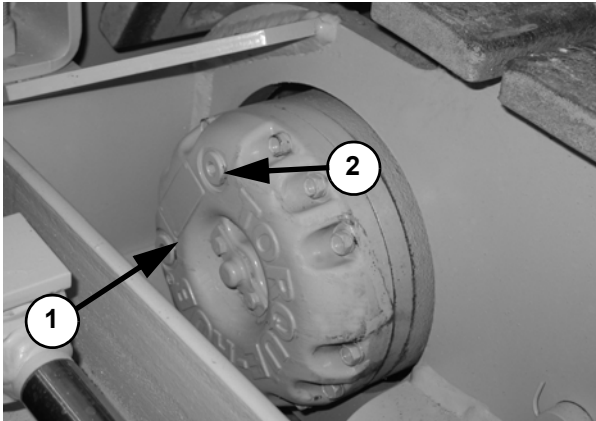

Fig. 40 - Fill and Check Plugs
- Remove the check plug (1, Fig. 40) at the 3 or 9 o'clock position. If oil appears, replace the plug. If oil does not appear, remove the fill plug (2) and add oil until it flows from the check plug.